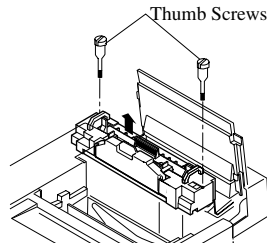
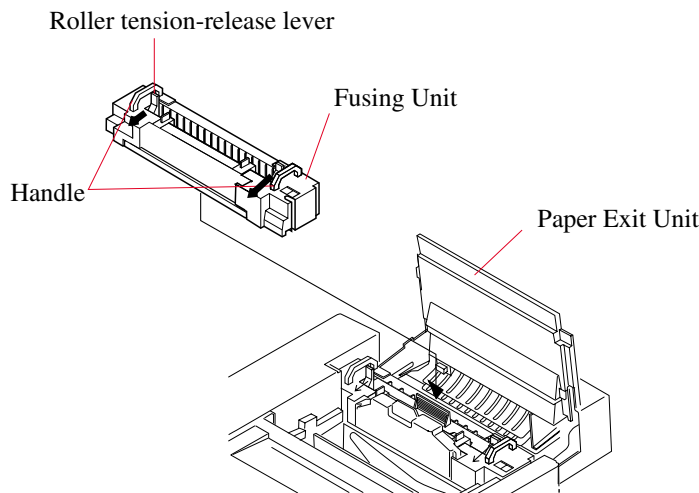

Fig. 5-17
Fig. 5-19
5.3.3 Replacement of the Fuser (see Fig. 5-17 through Fig. 5-19)
3. Remove the two thumbscrews from the fuser (see Fig. 5-17).